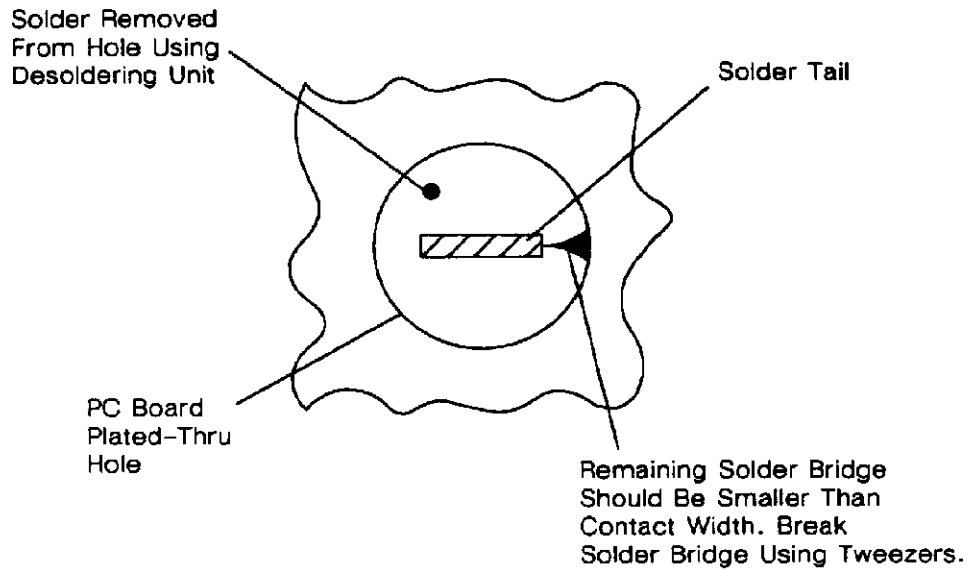

Fig. 5. Removal Of Solder Bridges After Desoldering Tail And Hole
2. Break any remaining solder bridges to contacts using a pair of tweezers (See Figure 5).